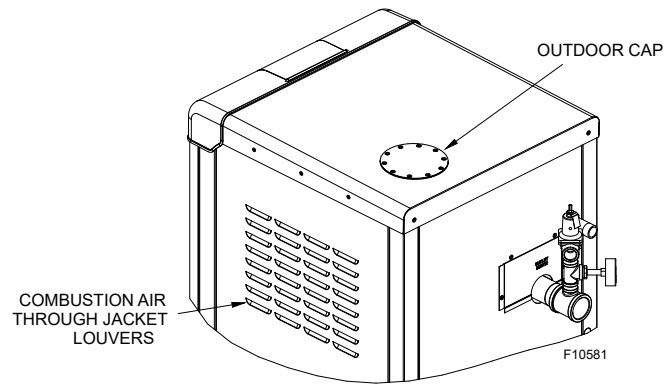

Figure 10. Outdoor Combustion Air
1. Install combustion air duct to the Air Intake Connection. See **Figure 4** and **Figure 10**. Remove and discard the outdoor cap, retaining the gasket. Install the intake air adapter (option 9-V in the Illustrated Parts List). Connect ducting material to the adapter collar. Seal the joint and fasteners with RTV (not supplied). All ducting shall be self-supporting.